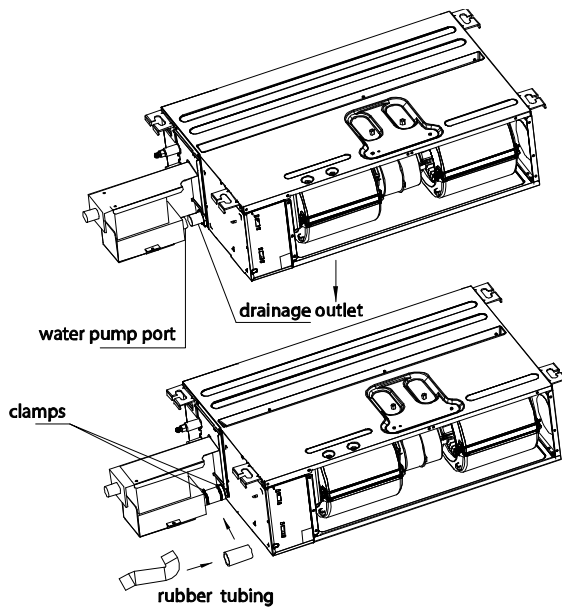

Fig. 41 —Condensate lift pump installation sizes 09K-12K
- c. Connect the drainage outlet and condensate lift pump using the rubber tubing and secure it with clamps on both ends (see Fig. 41).